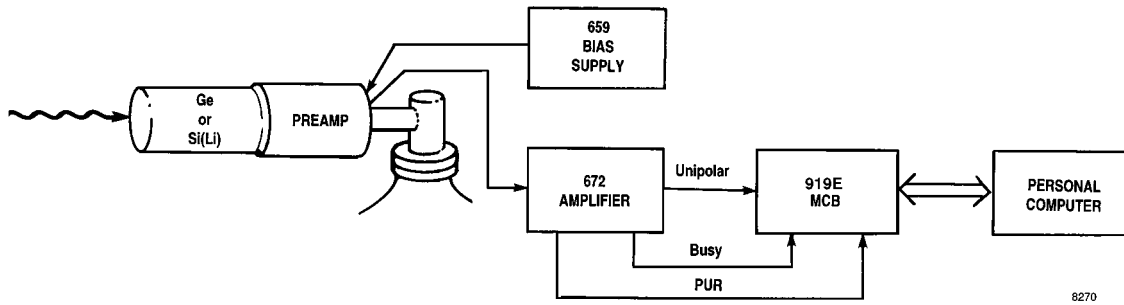

Fig. 8. Pulse-Height (Energy) Spectroscopy with a Ge Detector for Gamma Rays, or a Si(Li) Detector for X Rays.
- Si(Li) detector (Fig. 8 and 10).
- Ge detector (Figs. 8, 9, and 10).
In Figures 8 and 9, connection of the BUSY and PUR signals between the amplifier and MCB is essential for achieving accurate dead time correction with the Gedcke-Hale Live-Time Clock in the MCB. See the sections on Amplifiers and CAMAC ADCs for details.